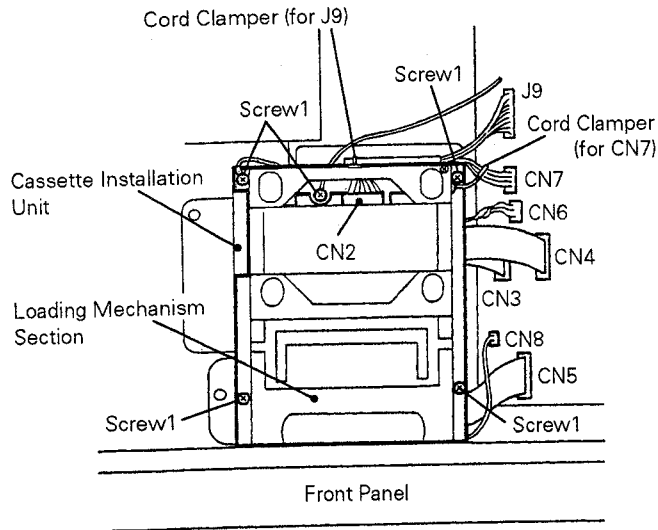

Fig. 1
3. Remove the five screws ①, and remove the loading mechanism while raising the rear part of the DAT mechanism assembly. (Refer to Fig. 1.)